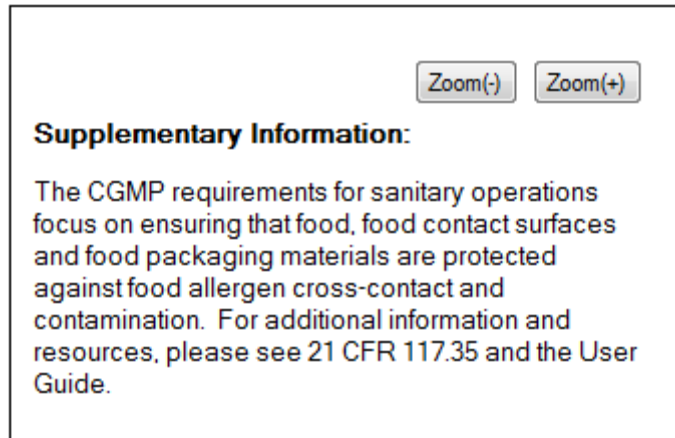

Figure 16: Supplementary Information
- **Warning message:** Throughout the application, warning messages will be displayed, as applicable (Figure 16).